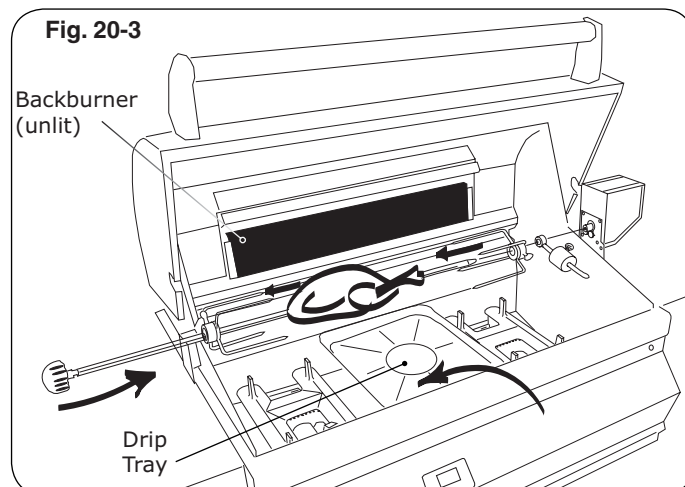

Fig. 20-3
4. Slide left meat holder onto rod as shown in Fig. 20-3 and tighten screw.
5. Slide meat onto rod and into holder (Fig. 20-3).
6. Slide right meat holder onto rod and into meat (Fig. 20-3). Tighten screw.